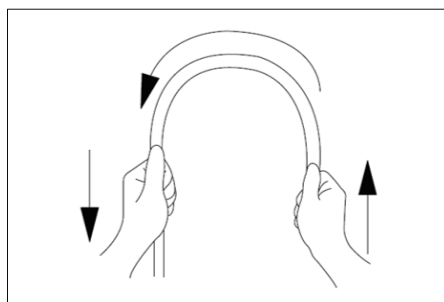

Figure 3.15
5. Bend the endoscope's insertion section into a semi-circle with both hands, and then move both hands in the direction indicated by the arrow (as shown in Figure 3.15). Confirm that the entire bending section can be smoothly bent into a semi-circle and has good flexibility.